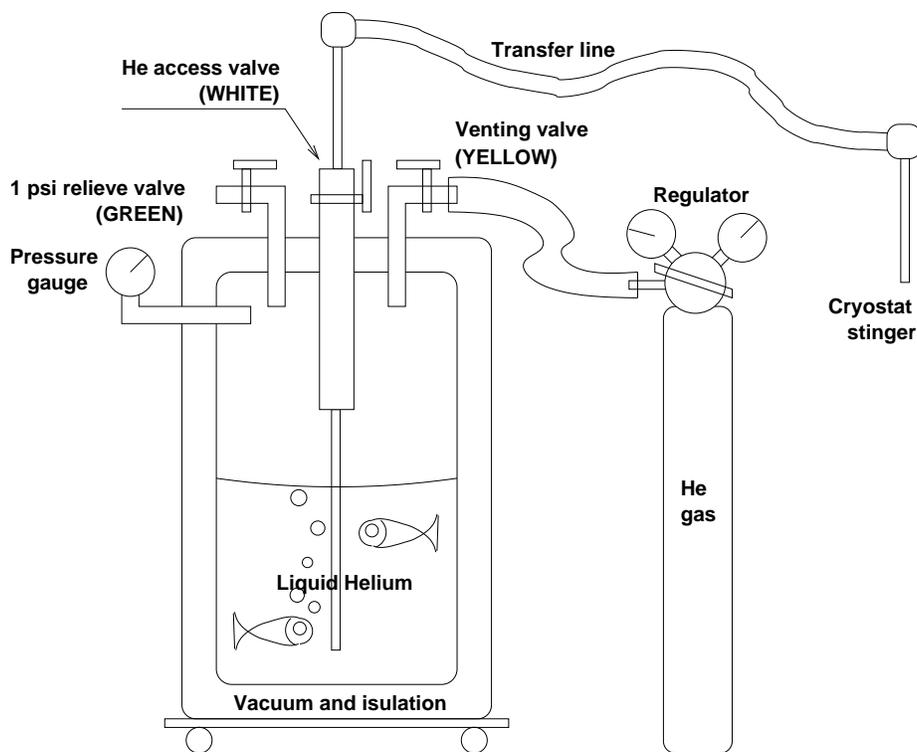

Figure 1: Helium fill schematics.
- A helium dewar, or several of them (see Fig. 1). Typically 100–500 liters a piece. Not to be stored for too long since they lose about 1% of their maximum volume every day. In 10 days, you will have wasted 10–50 liters. There are usually three valves, green (1 psi safety valve), yellow (for venting or introducing pressure), and white (for helium extraction). Always keep the green safety valve open during transport and manipulation. Closing all the valves at the same time is obviously not terribly clever. Don't do it. Manipulate the dewar with respect. Don't make the helium all excited before you even begin.